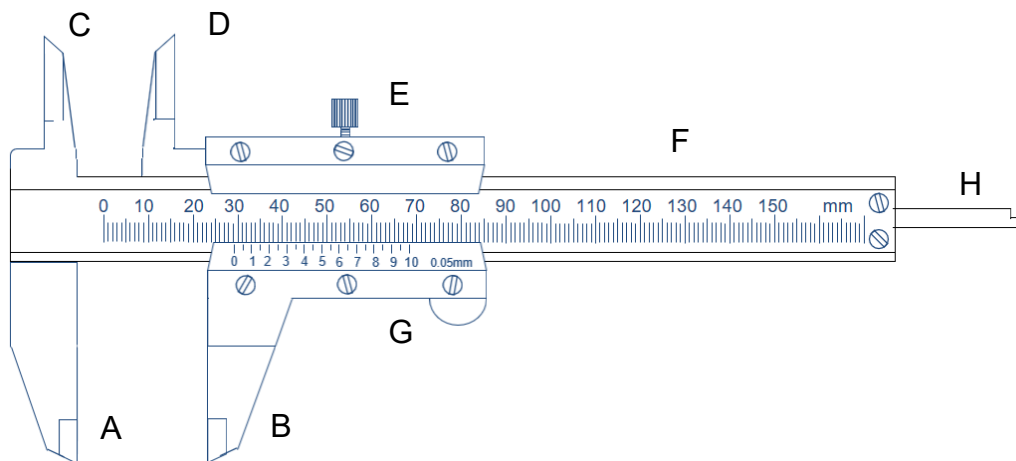

Figure 1. Vernier Caliper
0.05 mm in accuracy for vernier caliper is shown in Fig.1. **F** is the main-ruler and **G** is the sub-ruler that is attached on main-ruler and able to slide. Pincers **A** and **B** are used for measuring the outer diameter of a cup; and pincers **C** and **D** are for measuring of the inner diameter of a cup. **H** is used for measuring the depth of a container. Nut **E** can fasten the sub-ruler on the main-ruler.